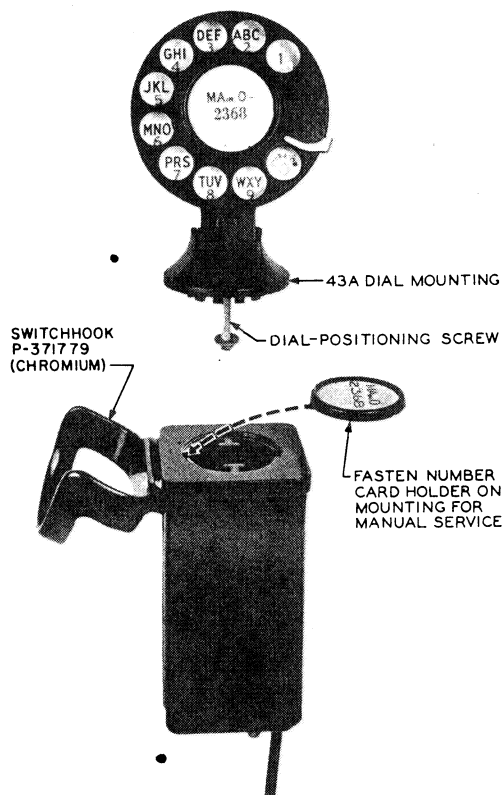

Fig. 16 — Assembly of 43A Dial Mounting on G-type Handset Mounting
6.08 The G-type handset mounting is used with the 211-, 212-, and 213-hang-up type telephone sets (see Fig. 16 and 17). The earlier 41A dial mounting is secured in the same manner as shown for the 43A.